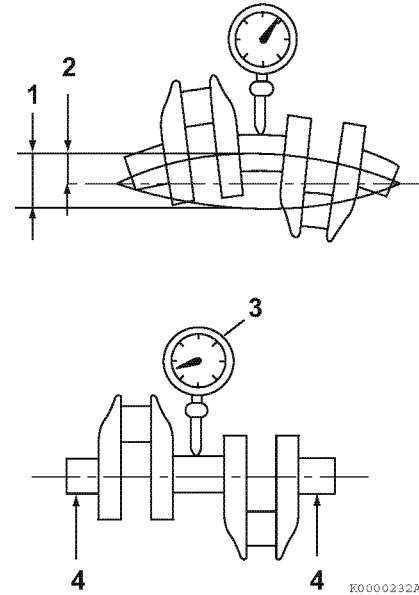

**Figure 6-73**
2. Measure the outside diameter of the tappet stem (**Figure 6-73, (1)**). Record the measurements. See *Tappet* on page 6-12 for the service limit.